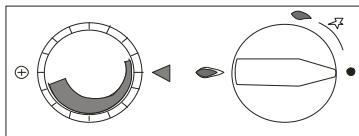

Figure 4 - Off Position
3. Ensure that the arrow on the control knob is pointing towards the OFF position as shown in **Figure 4**. Press in the knob and slowly turn anti-clockwise until a click is heard. The spark should now light the pilot. On first lighting, it may require several attempts to allow the pilot light to be purged of air.